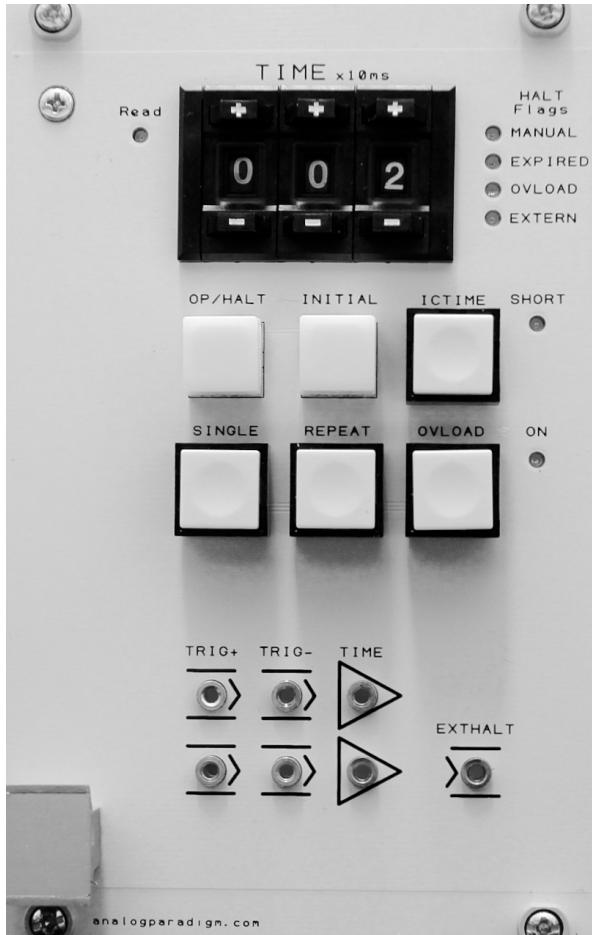

Figure 2.2: CU front panel
The control unit (CU), shown in figure 2.2, is the heart of the analog computer as it controls the overall operation of the system's integrators as these are the only computing elements which are time dependent. An integrator can be in one of the three following states at any time: